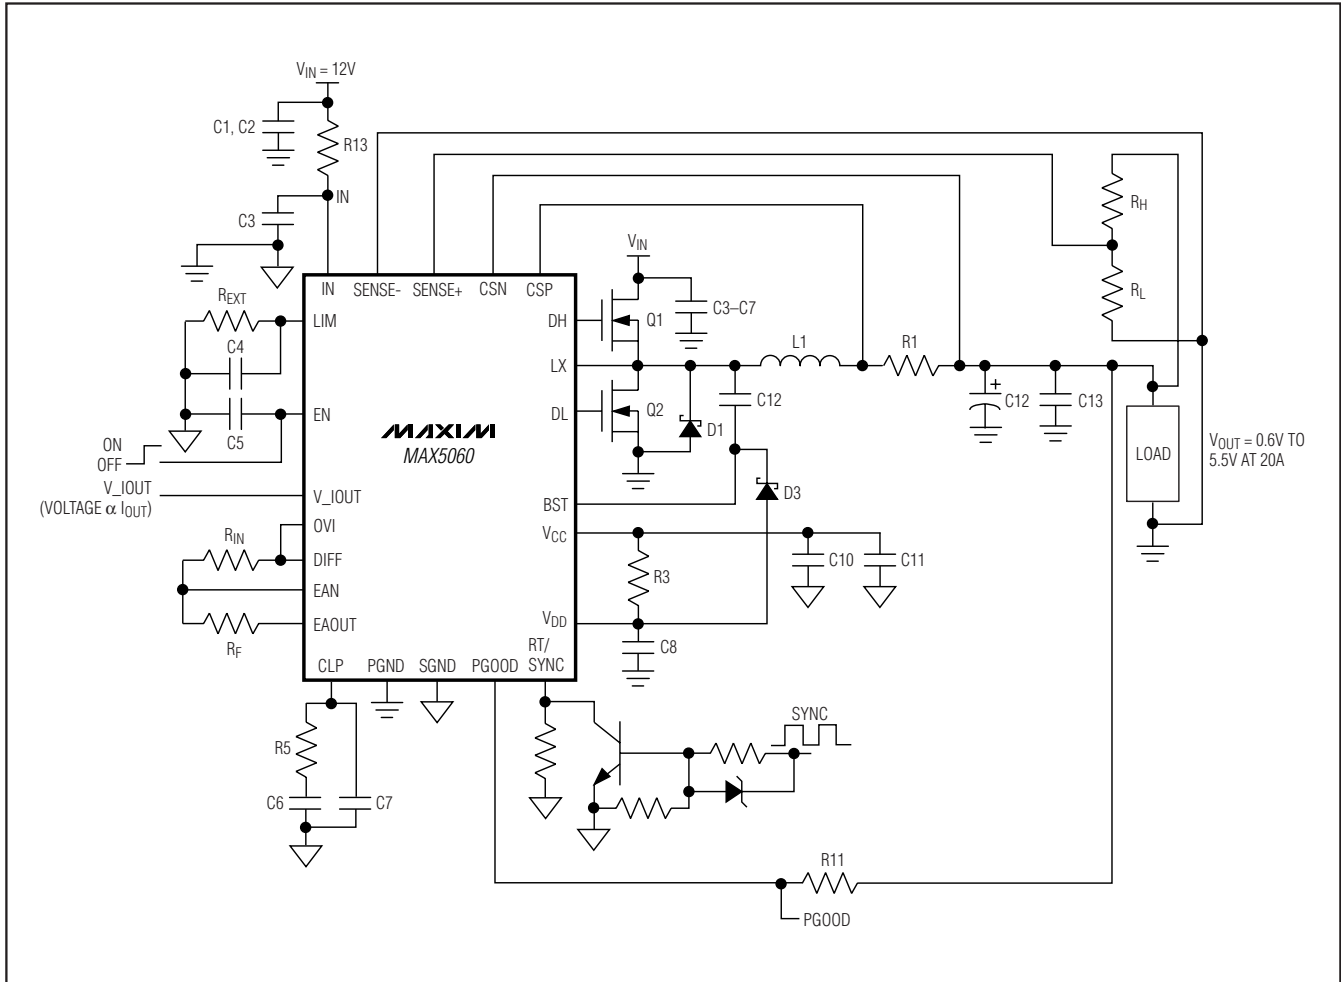

Figure 1. Typical Application Circuit,  $V_{IN} = 12V$  (MAX5060)
( $T_A = +25^\circ\text{C}$ , Figures 1 and 2, unless otherwise noted.)
Use an open-collector transistor to synchronize the MAX5060/MAX5061 with the external system clock (see Figures 1 and 2).
The VEA output clamps to 930mV relative to the internally generated common-mode voltage ( $V_{CM}$ , 0.6V), thus limiting the maximum output current. The maximum average current-limit threshold is equal to the maximum clamp voltage of the VEA divided by the gain (34.5) of the current-sense amplifier. This results in accurate settings for the average maximum current for each phase. Set the VEA gain using  $R_F$  and  $R_{IN}$  (see Figures 1 and 2) for the amount of output voltage positioning required within the rated current range as discussed in the *Adaptive Voltage Positioning* section. The finite gain of the VEA introduces an error in the output voltage setting. Use the following equation to calculate the output voltage at no load condition.
The high-side (DH) and low-side (DL) drivers drive the gates of external n-channel MOSFETs (Figures 1 and 2). The drivers' 4A peak sink- and source-current capability provides ample drive for the fast rise and fall times of the switching MOSFETs. Faster rise and fall times result in reduced cross-conduction losses. For modern CPU voltage-regulating module applications, where the duty cycle is less than 50%, choose high-side MOSFETs (Q1) with a moderate  $R_{DS(ON)}$  and a very low gate charge. Choose low-side MOSFETs (Q2) with very low  $R_{DS(ON)}$  and moderate gate charge. Size the high-side and low-side MOSFETs to handle the peak and RMS currents during overload conditions.
The hiccup current limit overrides the average current limit. The MAX5060/MAX5061 include hiccup current-limit protection to reduce the power dissipation during a fault condition. The hiccup current-limit circuit derives inductor current information from the output of the current amplifier. This signal is compared against one half of VCLAMP(EA). With no resistor connected from the LIM pin to ground, the hiccup current limit is set at 90% of the full-load average current limit. Use REXT to increase the hiccup current limit from 90% to 100% of the full-load average limit (see Figures 1 and 2). The hiccup current limit can be disabled by connecting LIM to SGND. In this case, the circuit will follow the average current-limit action during overload conditions.